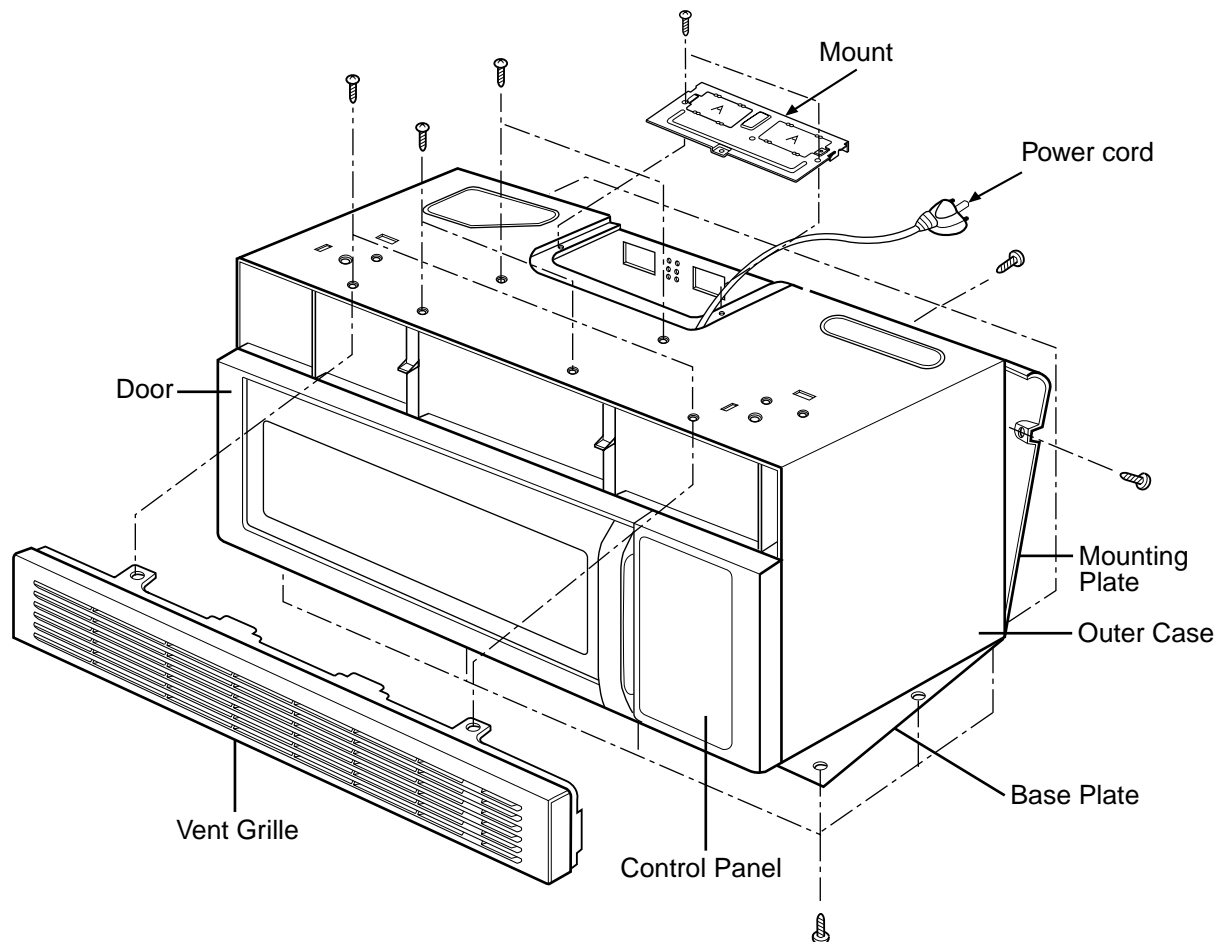

Figure 8
B. REMOVING THE OUTER CASE(Figure 8)
- (1) Remove the vent grille by removing two screws securing it to the outer case.
- (2) Remove two screws securing it to the front bracket.
- (3) Remove two screws securing it to the air duct.
- (4) Remove the wall mounting plate by removing the two screws securing it to the outer case.
- (5) Remove the base plate by removing six screws securing it to the outer case. Remove the Mount from the out case by removing two screws securing it to the outer case and one screw securing it to the ventilation motor ASS'Y and cavity.
- (6) Remove the power cord cover from outer case by removing a screw.